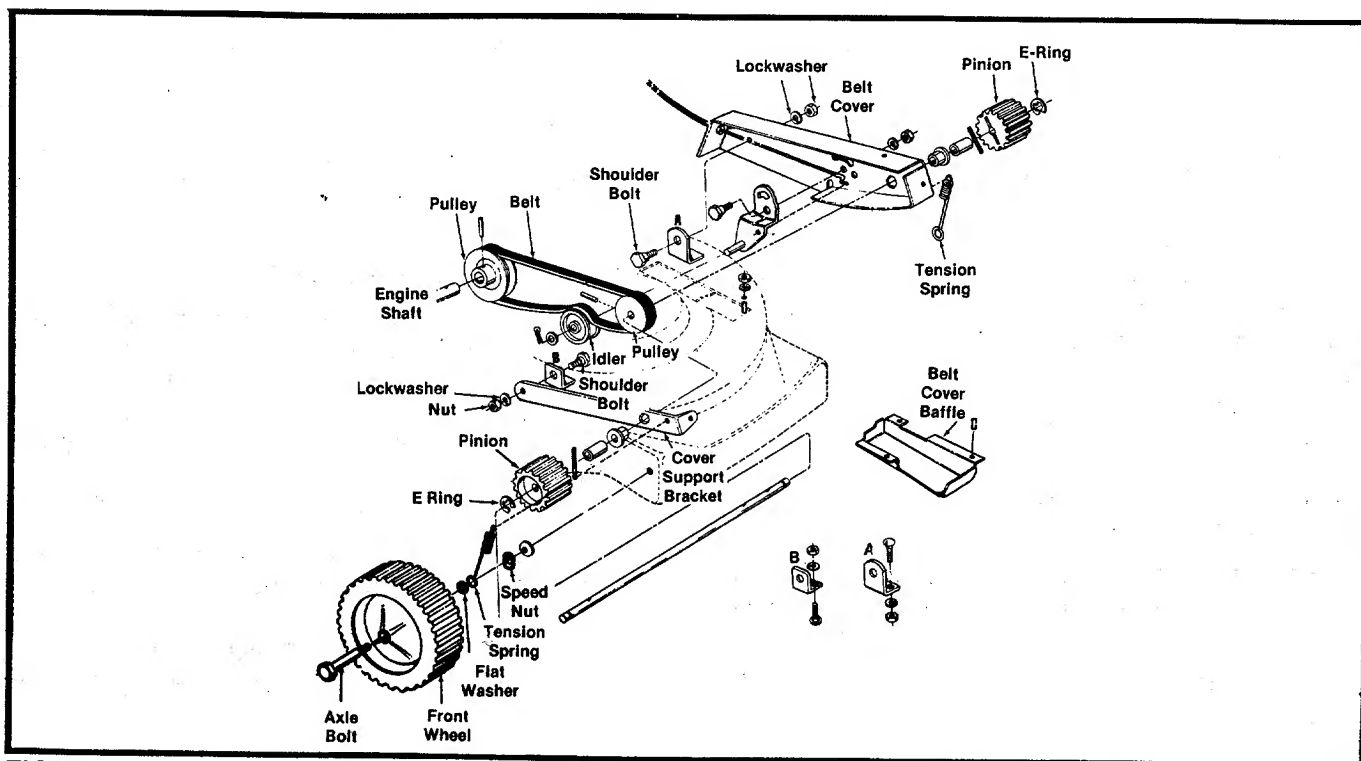

FIGURE 18.
2. Remove both tension springs. (See figure 18.)